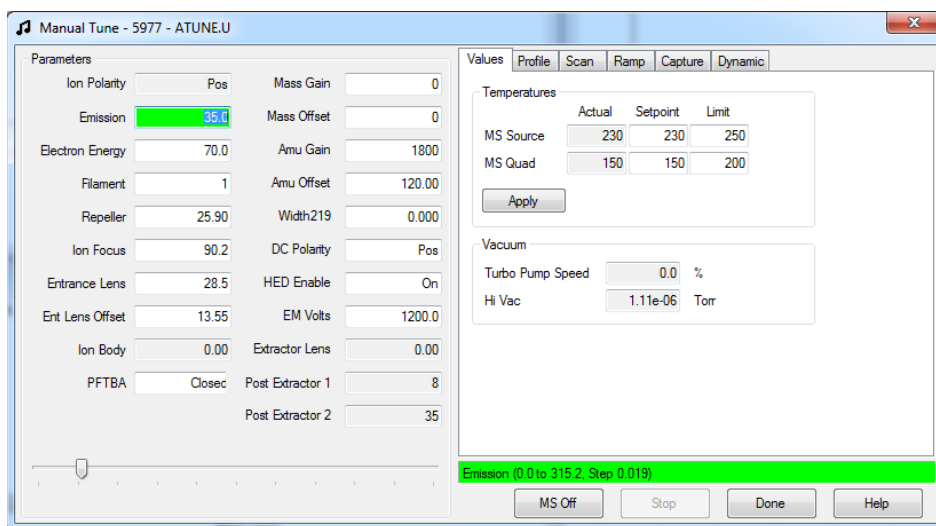
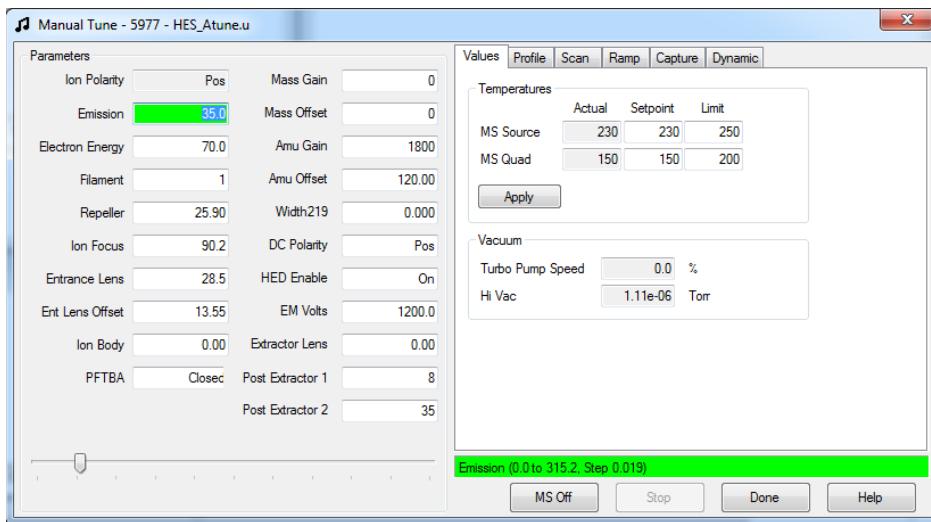

Figure 32. Manual tune values tab
Figure 33. HES manual tune values tab
- 2 Click the **Values** tab to view the MSD Temperatures and Vacuum. (See **Figure 32** and **Figure 33** on page 118.)